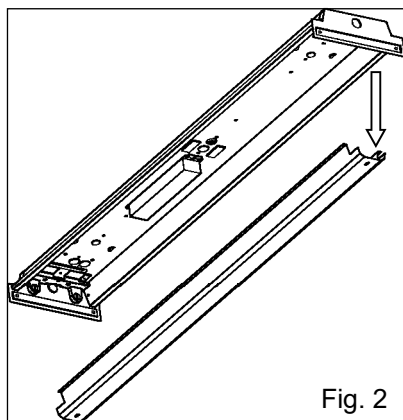

Fig. 2
4. Squeeze ballast cover at ends and remove (Fig. 2).